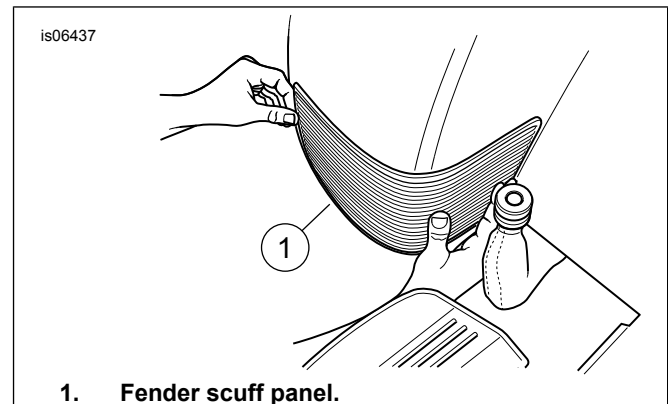

Figure 2. Fender Scuff Panel Positioning
3. See Figure 2. Position the panel (1) approximately 1/4 inch above the leading edge of the fender.